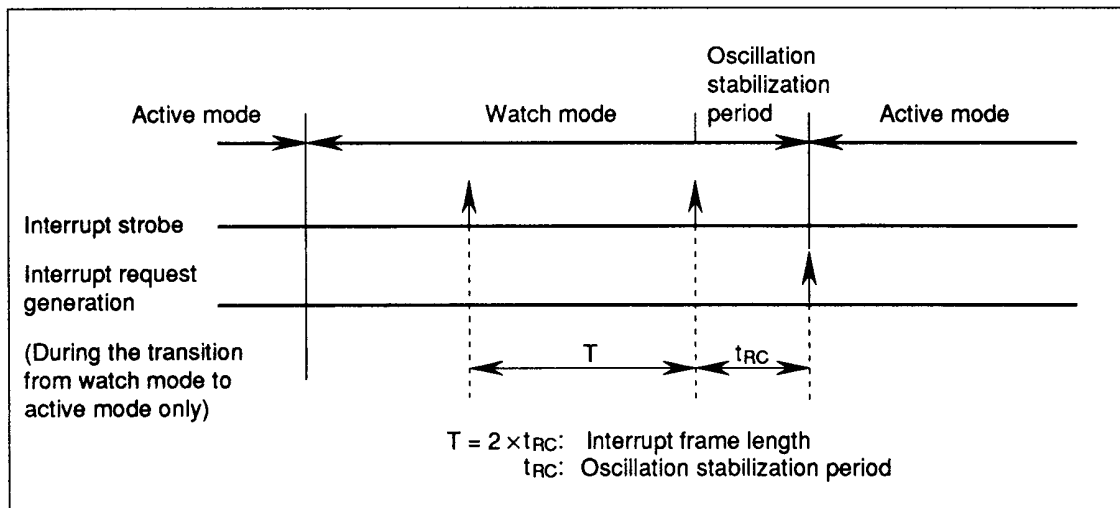
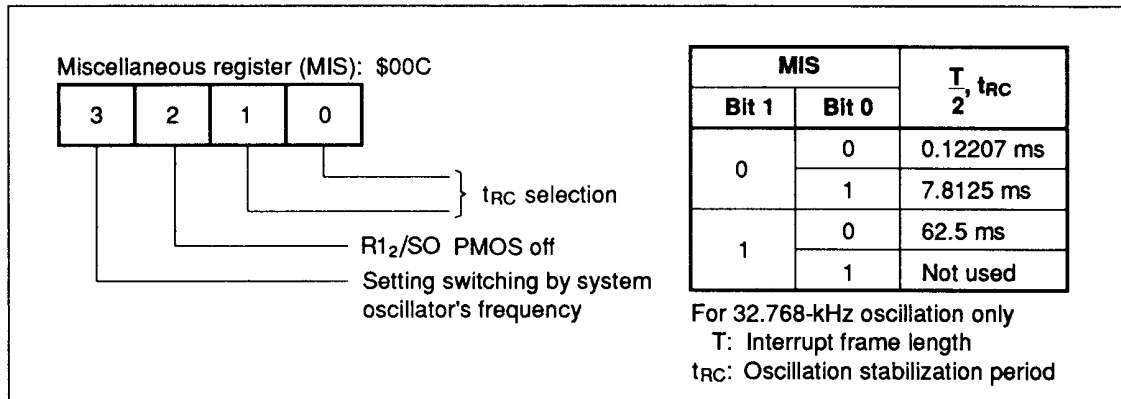

Figure 13 Interrupt Frame
Figure 14 Miscellaneous Register
Watch mode is terminated by a RESET input or a timer $A/\overline{INT}_0$ interrupt request. For details of RESET input, refer to the Stop Mode section. When terminated by a timer $A/\overline{INT}_0$ interrupt request, the MCU enters active mode if LSON is 0, or subactive mode if LSON is 1. Any interrupt request generated during the transition to active mode is delayed for half the interrupt frame period (t_{RC}), to give the oscillation time to stabilize, as shown in figure 13.
Interrupt Frame: In watch and subactive modes, timer A and $\overline{\text{INT}}_0$ interrupts are generated in synchronism with the interrupt frame. Three interrupt frame lengths (T) can be selected by settings of the miscellaneous register, as shown in figure 14. The time from an interrupt strobe to interrupt request generation is the oscillation stabilization period (t_{RC}), as shown in figure 13.